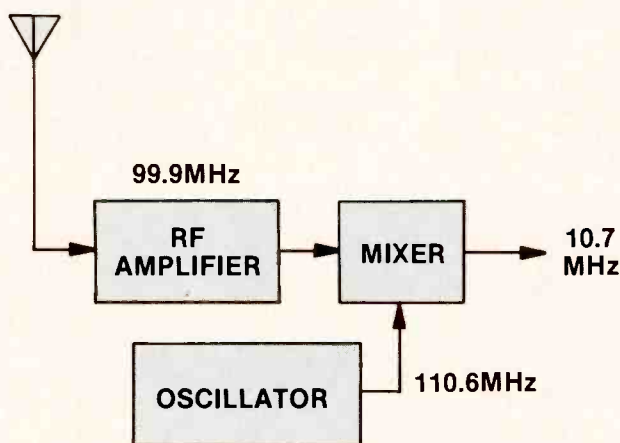
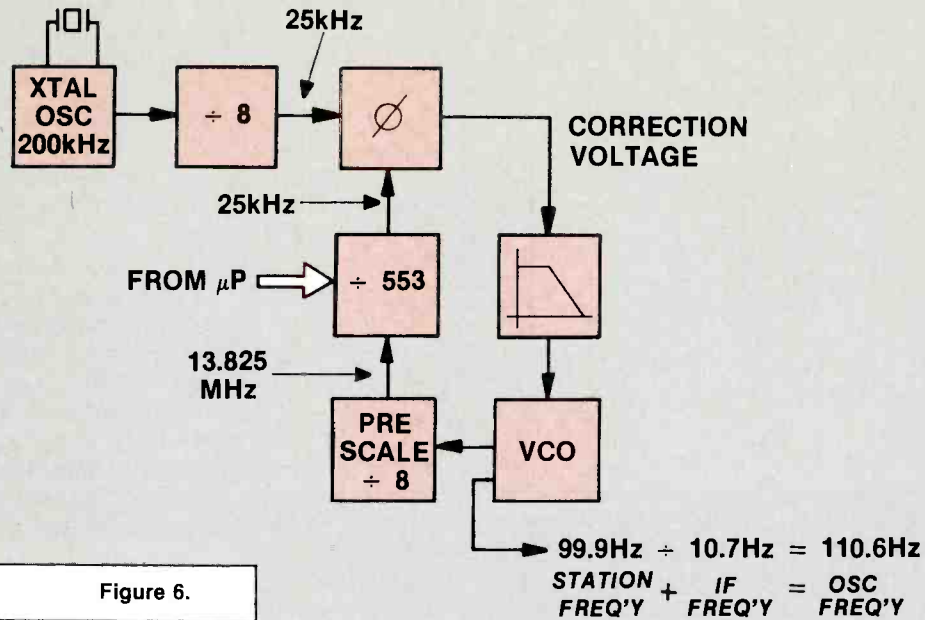

Figure 1.
Figure 6.
The block diagram in Figure 1 is for a typical tuner in a superheterodyne receiver. If this is an FM tuner, it must be able to select one of 99 channels or stations between 88.1MHz and 107.9MHz. With 99 stations available, it is possible to make a detent tuner that stops at each of the 99 carrier frequencies. In that case, the detent tuner would do the same job as the microprocessor tuner does.
For this discussion, we will assume that the listener has selected a station at 99.9 MHz. As shown in Figure 1, the local oscillator must be tuned to 110.6 MHz in order to get a difference frequency, or intermediate (IF) frequency, of 10.7 MHz.
Figure 6 shows the phase-locked loop for producing the crystal-stabilized local oscillator frequency of 110.6MHz as shown in Figure 1. A 200kHz crystal oscillator is used for stability in the circuit of Figure 6. That crystal oscillator frequency is divided by 8 to produce a 25kHz input to the phase detector.
If you have your calculator handy, you will see that the VCO must be operating at 110.6 so that when it is divided by 8 and then by 553, the result will be 25kHz. That will match the 25kHz from the crystal circuit and a phase lock will be obtained. If the VCO should try to drift off frequency, the output from the phase comparator will send a correction voltage through the low-pass filter and bring the VCO back to the proper frequency. Note: There is no dc amplifier in the phase-locked loop of Figure 6.